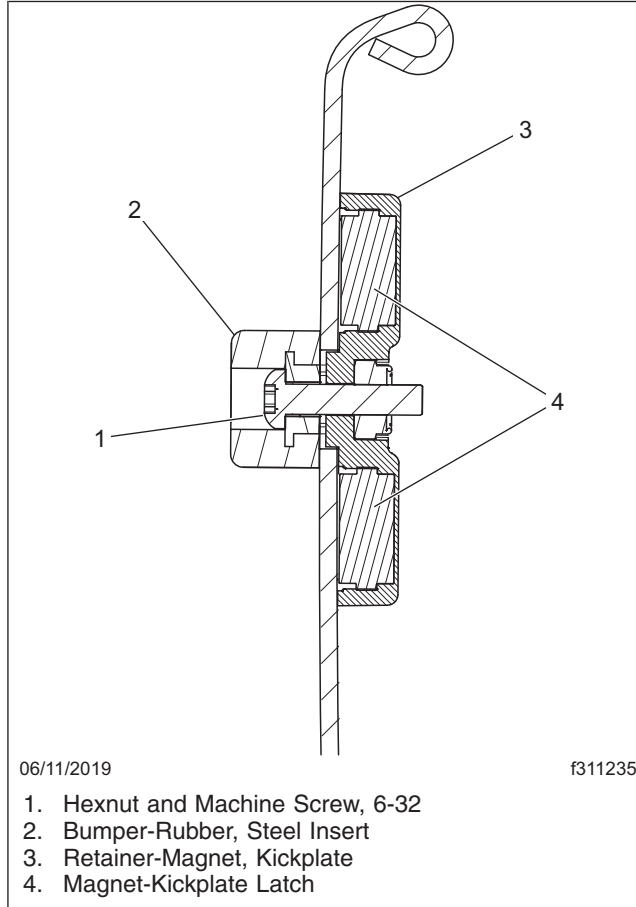

Fig. 2, Rubber Bumper and Magnet Assembly
5. Using the machine screw and hexnut, install the new rubber bumper and magnet assembly. See **Fig. 2**.